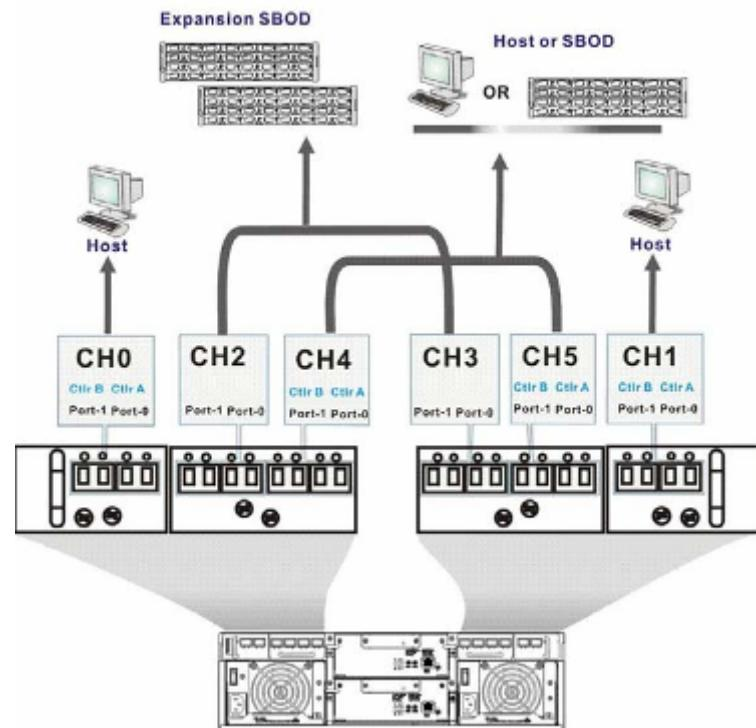

Figure 1-5: 6 Channel Model - Fibre Ports (Redundant-controller)
The X4 subsystem comes with either six (6) or four (4) 4Gbps Fibre channels. Each channel is routed through two (2) SFP ports to provide a total of up to twelve (12) FC ports. (See *Figure 1-5*) Shown below are details of these I/O ports: